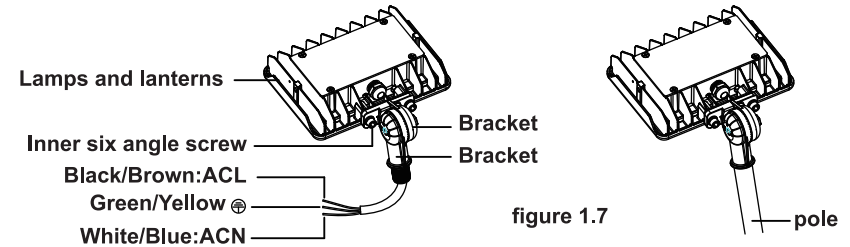

figure 1.7
- Step 2: Finish the wire connection according to the right mode of connection (pay attention to positive wire, negative wire, and ground wire), and then put wire into lamp pole; (figure 1.7)